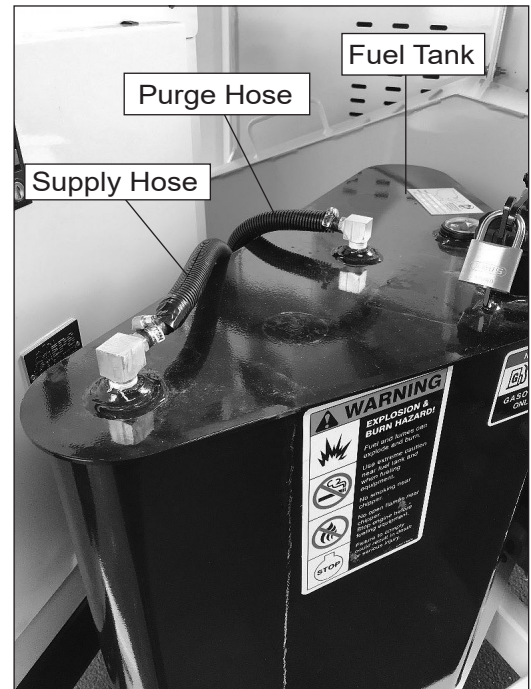

Figure 1 — Fuel Hose Location (DC1317 Reservoir Shown)
2. Locate the two fuel hoses on the top of the fuel tank (refer to Figure 1). One hose is the supply fuel hose and the other is a fuel purge hose.